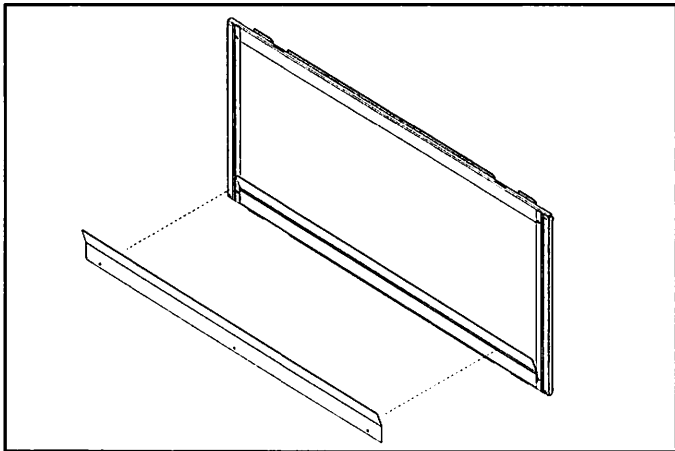

Figure 2. Install Glass Vanity Panel
3. Install the glass vanity panel onto the appliance glass assembly by inserting the long side of the vanity panel between the glass and bottom glass frame as shown in Figure 2.